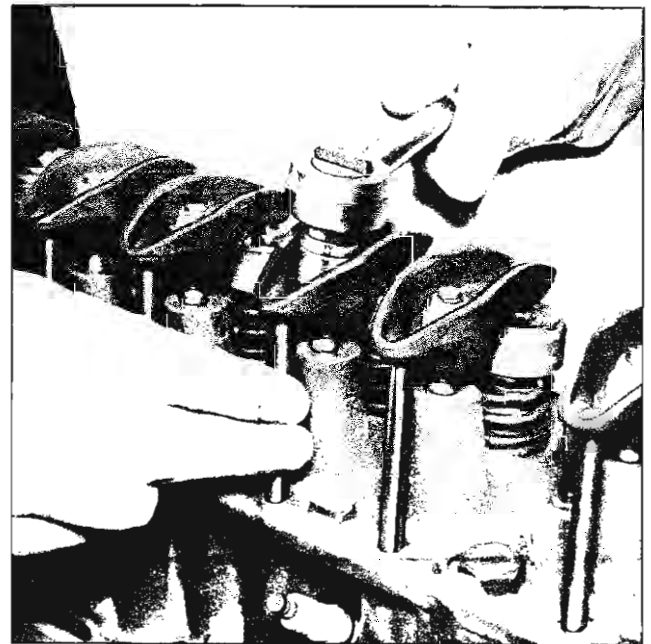

Fig. 8—Adjust Valve Lash
- b. Turn adjusting nut until all lash is removed from valve train. This can be determined by checking push rod side play by hand while turning adjustment nut slowly (fig. 8). At this point, turn adjusting nut one more turn to place the lifter plunger in center of its travel.